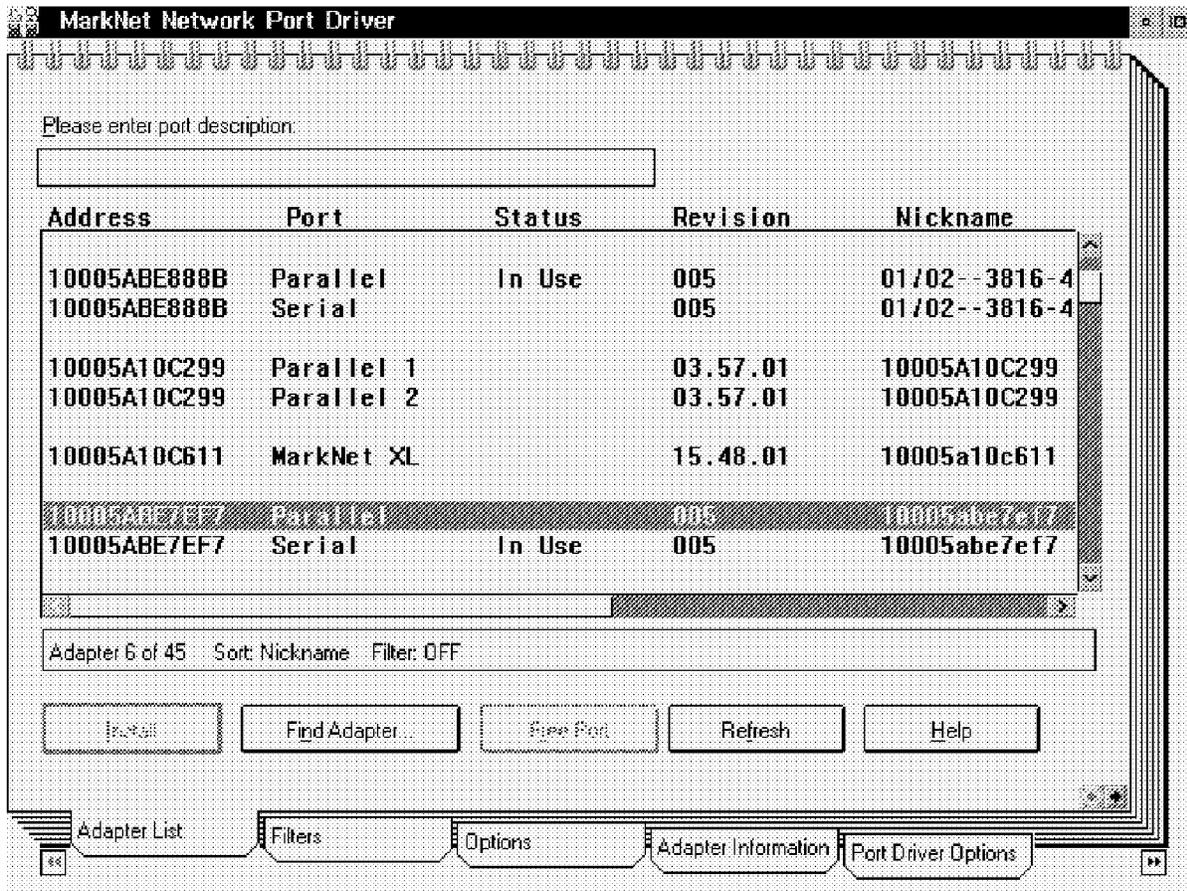

Figure 197. MarkNet Network Port Driver Notebook - Adapters List Page
3. Next, the MarkNet Network Port Driver notebook shown in Figure 197 on page 260 will open.